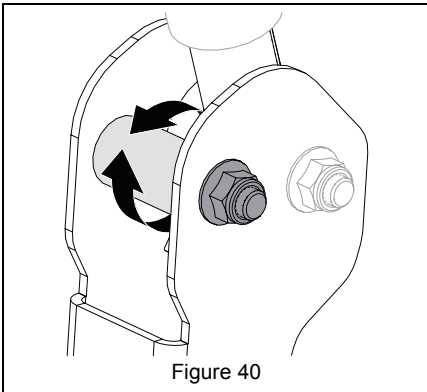

Figure 40
6. Turn eccentric spacer so levers are at the same height and have a 1.3 cm – 2.5 cm (1/2" – 1") gap between lever ends. See Figure 40.